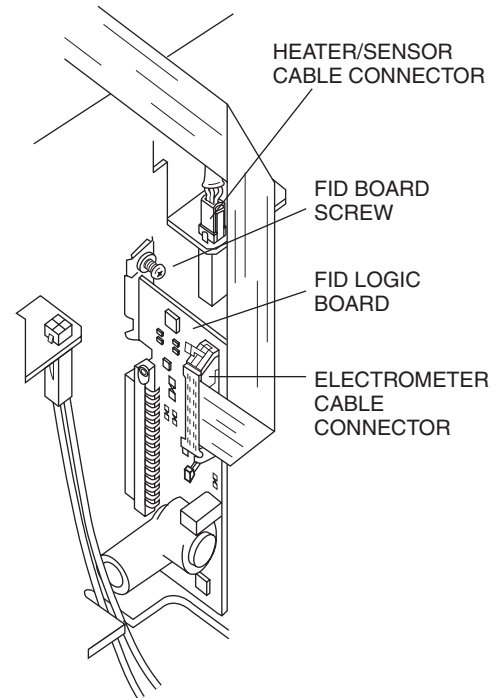

Figure 4:
1. Plug the FID logic board into the GC main board at the location corresponding to the detector mounting position (front or rear) which you intend for the D3. (Refer to the GC manual as required.) Tighten the detector card screw. (**Figure 4**)